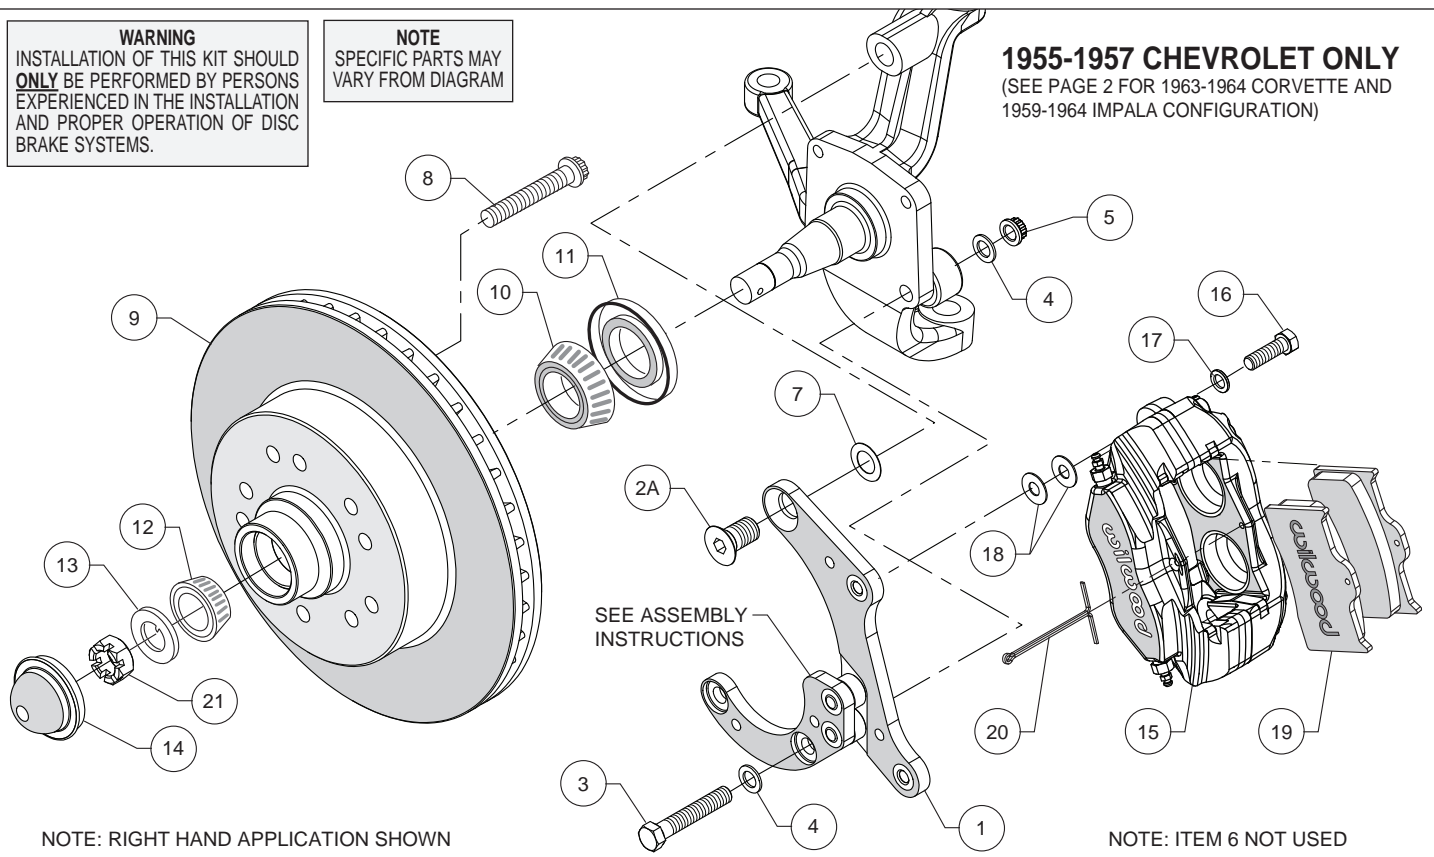

Figure 2. Typical Installation Configuration, 1955-1957 Chevrolet
- Orient the bracket as shown in Figure 2 and Photo 1, and install using bolts (2A) in the upper hole. Initially use one .015" shim (7) on the upper bolt between the bracket and spindle, Figure 2. Install bolts (3), washers (4) and nuts (5) in the lower holes, Figure 2. Temporarily tighten the mounting bolts, followed by the two bracket-to-bracket bolts. **NOTE: The bracket must fit squarely against the mounting points on the spindle.** Inspect for interference from casting irregularities, machining ridges, burrs, etc. Later, after the bracket alignment has been checked, the bolts will be secured using red *Loctite*® 271.